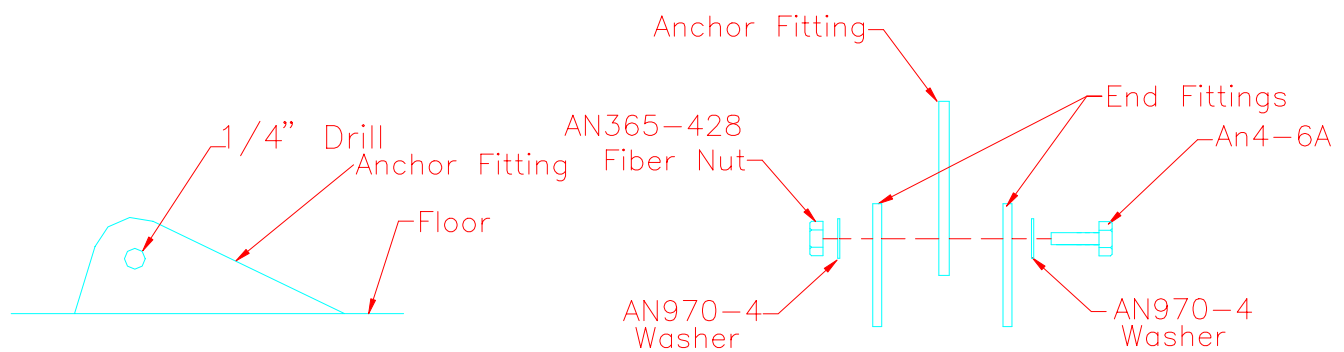

Figure 22.4.3
- 5) Secure the end fittings of segment #2 for both sides to the lap belt anchor fitting (FUS-57) which protrudes from the floor just behind the seats. Use a AN4-6A bolt. See figure 22.4.3.